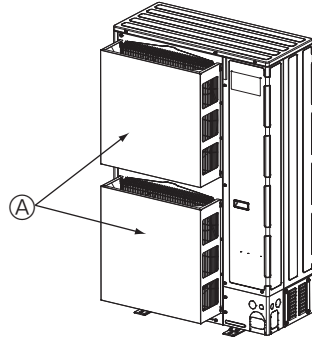

Fig. 2-17
- ② Install an optional air protect guide if the unit is installed in a location where strong winds from a typhoon, etc. may directly enter the air outlet. (Fig. 2-17)